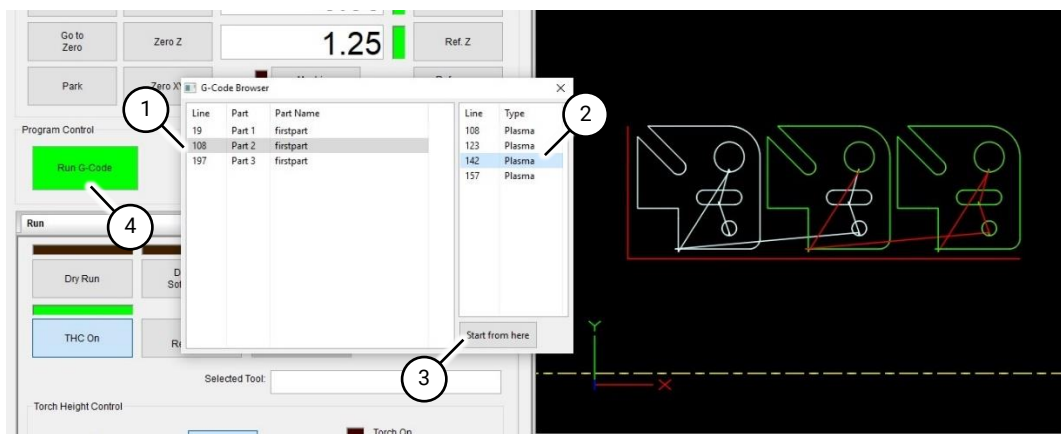

Fig 78 G-Code Browser
2.1 Select a part (Fig 78 (1)). If this is not the first part in sequence, all previous parts will be coloured white on tool path screen.
2.2 Select a position to start from within the part (Fig 78 (2)). If the first position is selected, the complete part will be cut.
2.3 Press the 'Start from Here' button (Fig 78 (3)).
2.4 Press the 'Run G-Code' button (Fig 78 (4)).